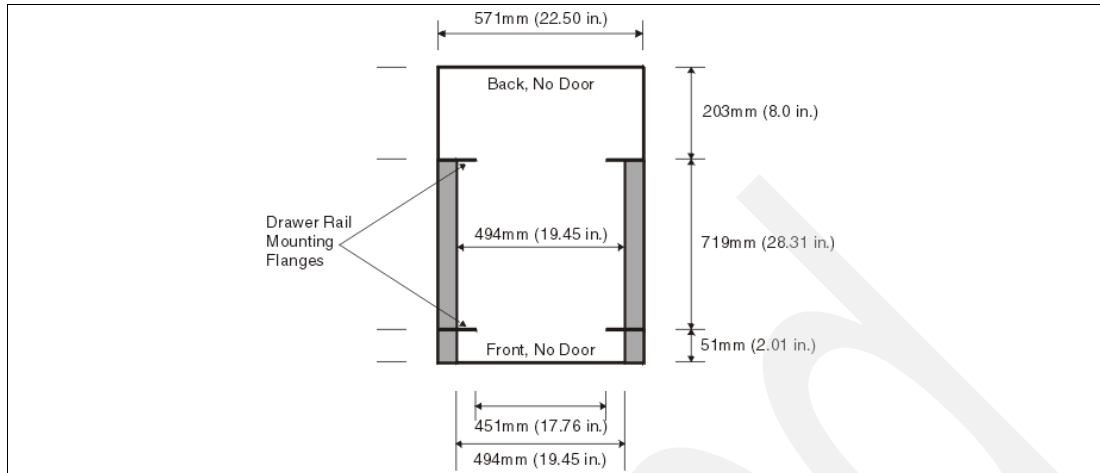

Figure 1-4 Top view of non-IBM rack specifications dimensions
- ▶ The front rack opening must be 451 mm wide + 0.75 mm (17.75 inches + 0.03 inches), and the rail-mounting holes must be 465 mm + 0.8 mm (18.3 inches + 0.03 inches) apart on center (horizontal width between vertical columns of holes on the two front-mounting flanges and on the two rear-mounting flanges). See Figure 1-4 for a top view showing specifications dimensions.